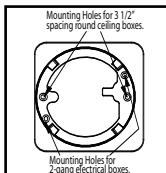

FIGURE 5
2. Connect the AC QUICK CONNECT harness as described in the WIRING INSTRUCTIONS and, attach the included mounting bracket to the electrical box using the included hardware in the appropriate mounting holes (see figure 5). Be sure the foam seal on the mounting bracket completely covers the electrical box cut out hole and makes complete contact with the ceiling/wall surface. The mounting bracket is keyed so that